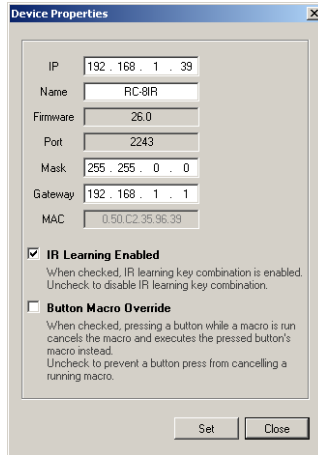

Figure 11: Kramer RC Configuration – Set Device Details Dialog Box
2. Click the Set button to apply the settings (see Figure 11).